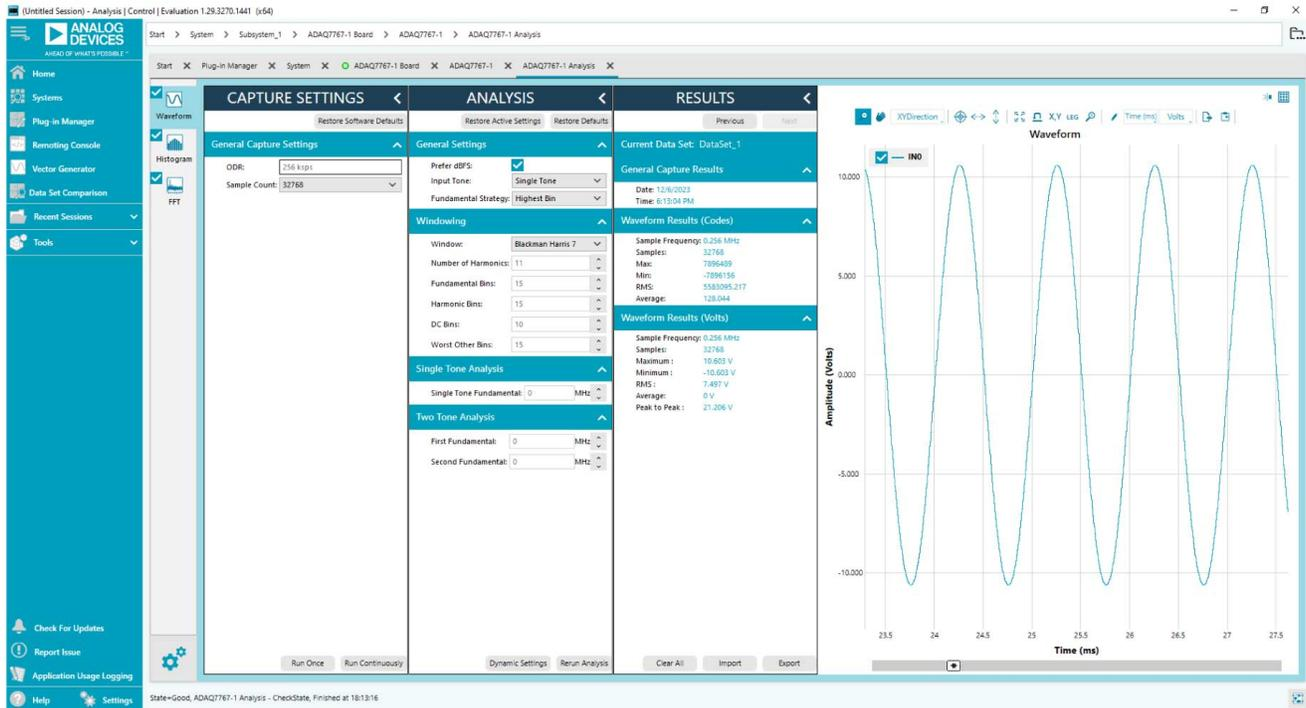

Figure 20. ADAQ7767-1 Board Analysis Window
7. Click **Proceed to Analysis** to open the **ADAQ7767-1 Board Analysis** window shown in Figure 20.
The output data rate (**ODR**:) is automatically calculated by the software based on the selected ADC filter settings. By default, **ODR**: is set to 256 kSPS (see Figure 20).
The **General Settings** section sets up the preferred configuration of the fast Fourier transform (FFT) analysis. This configuration sets the number of tones to analyze and the fundamental strategy to use (see Figure 20).
Click **Export** to export the captured data. The waveform, histogram, and FFT data are stored in .xml files along with the values of the parameters at capture (see Figure 20).